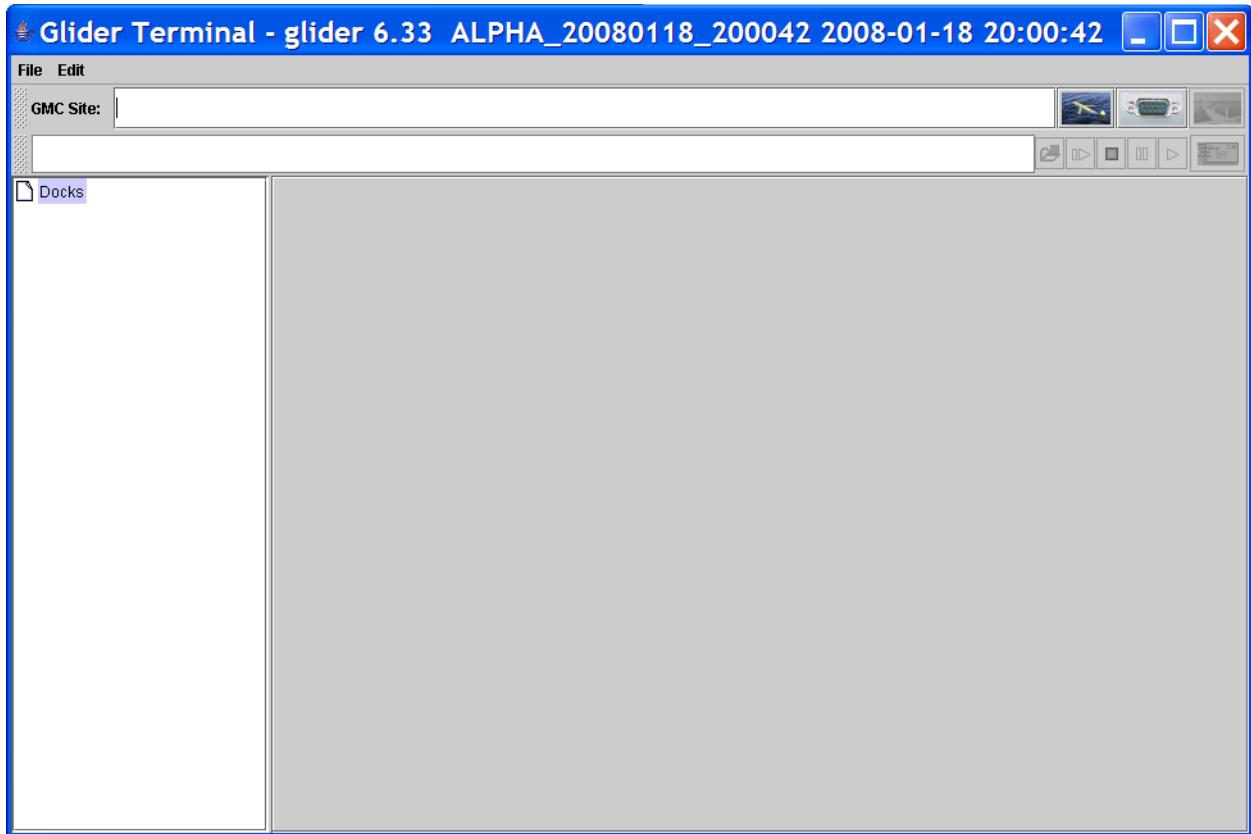

Figure 3-4. Glider Terminal Main Window.
1. Double click the desktop icon labeled “Glider Terminal” or select the item labeled “Glider Terminal” from the “All Programs” menu (Windows XP). The Glider Terminal window should appear (Figure 3-4).